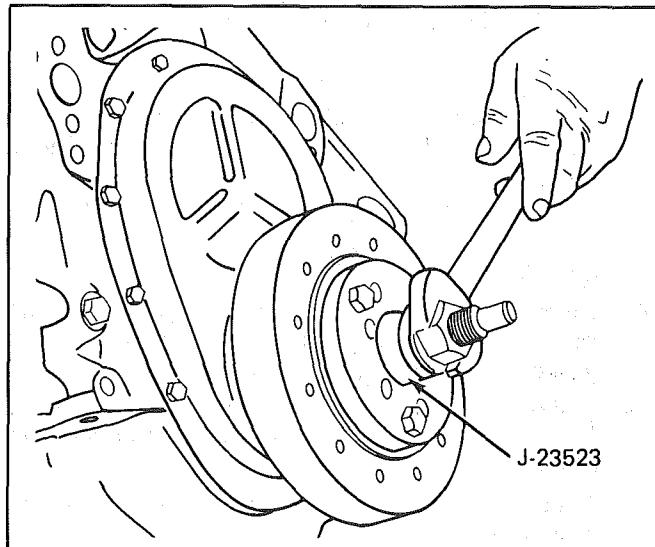

Fig. 6A3-26 Installing Torsional Damper
- c. Pull damper into position as shown in Figure 6A3-26.